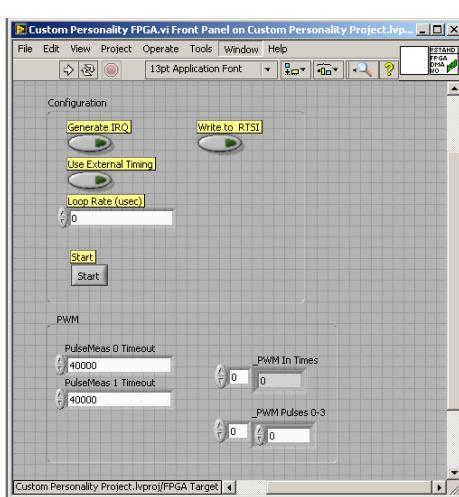

Figure 48: Create Labview FPGA target and XML - 10
9. The project menu will now appear and should look something like Figure 48. Select the LabVIEW VI as demonstrated our is called Custom Personality FPGA.vi